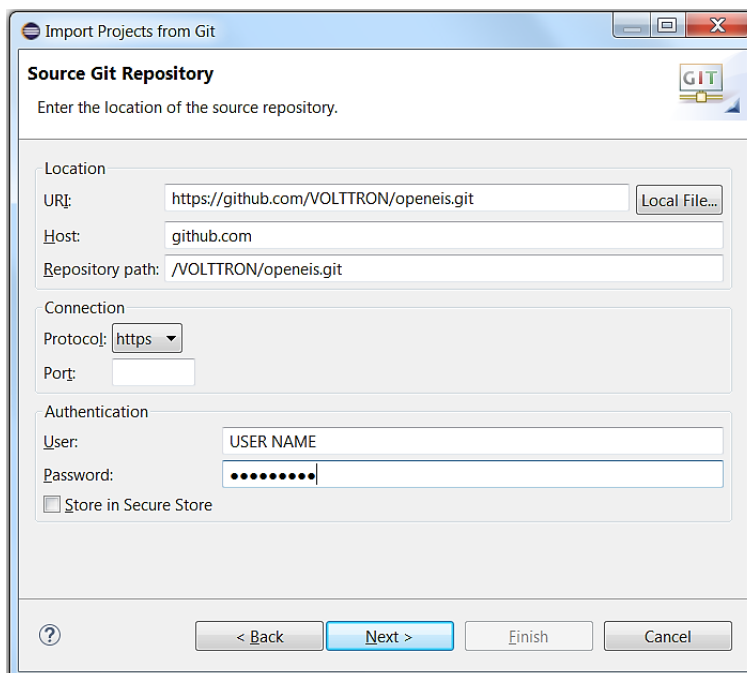

Figure 21: Checking Out OpenEIS with Eclipse from GitHub (continued)
4. Fill in <https://github.com/VOLTTRON/openeis.git> for the URI, and use your GitHub account login (GitHub account username and password in the User and Password, as shown in Figure 21), select Next ->